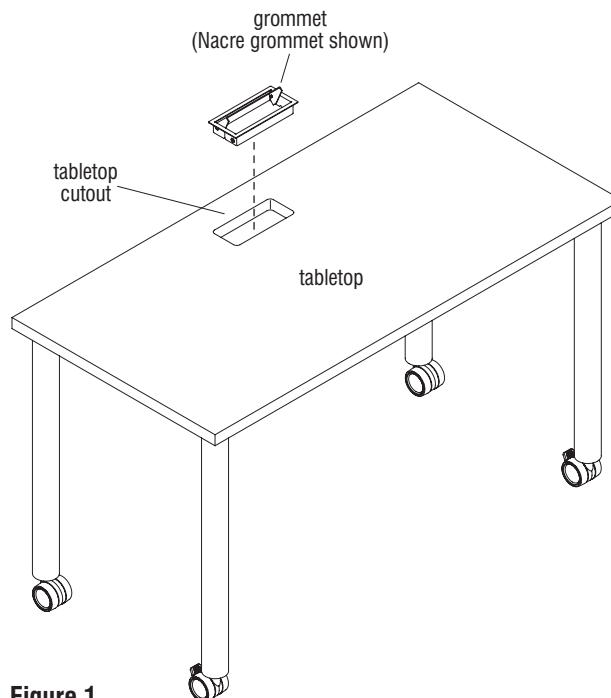

Figure 1
2. Push the grommets into each cutout, tapping lightly with a rubber mallet if required. Use caution to avoid scratching the grommet (Figure 1 & Details A or B).
1. Position the Node grommets above the tabletop cutouts (Figure 1 & Detail C).
2. Push the grommets into each cutout, tapping lightly with a rubber mallet if required. Use caution to avoid scratching the grommet (Figure 1 & Detail C).